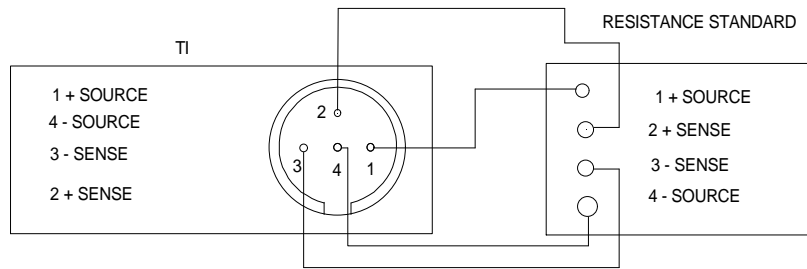

Figure 1.
4.1.2 Connect the equipment as shown in Figure 1.